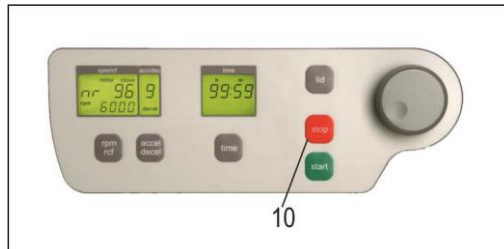

Figure 20
With the "stop" key (10) (see Figure 20), the run can be interrupted at any time. After pressing the key, the centrifuge decelerates, with the respective pre-selected intensity, down to a standstill.